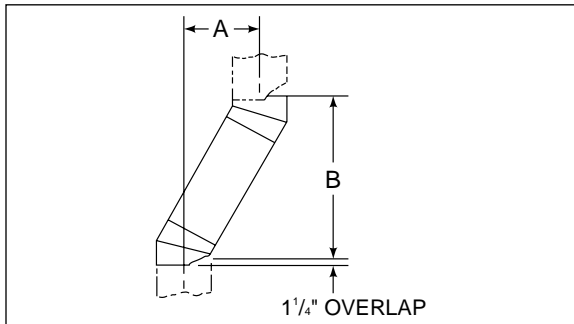

Figure 8
- Measure how far the chimney needs to be shifted to enable it to avoid the overhead obstacle. See Figure 8, dimension "A".
Example: Your "A" dimension from Figure 8 is 14 $\frac{1}{2}$ ". Using Table 1, the dimension closest to but not less than 14 $\frac{1}{2}$ " is 14 $\frac{3}{8}$ " using a 30° offset/return. It is then determined from the table that you would need 33" (Dimension "B") between the offset and return. The chimney components that best fit your application are two [2] SL312's.